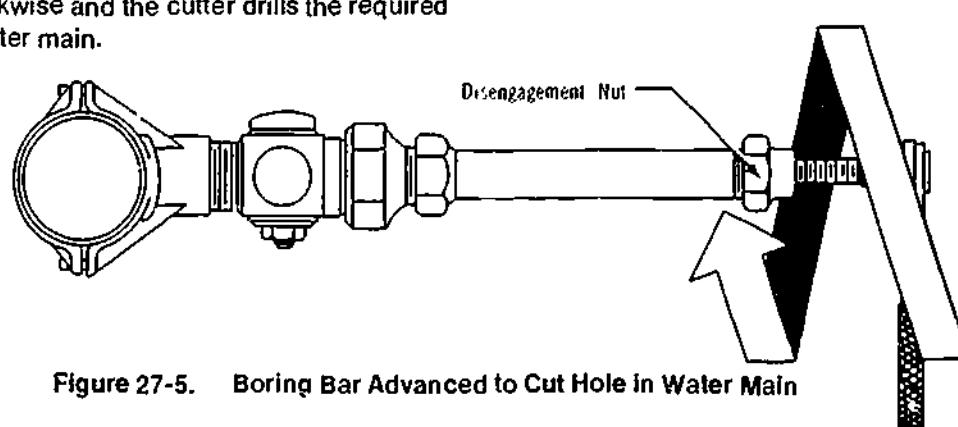

Figure 27-5. Boring Bar Advanced to Cut Hole in Water Main
- c) The drilling machine is then attached to the corporation stop, as shown in Figure 27-5, and the boring bar is advanced until the cutter contacts the main; then, with the ratchet wrench, the boring bar is turned clockwise and the cutter drills the required hole in the water main.